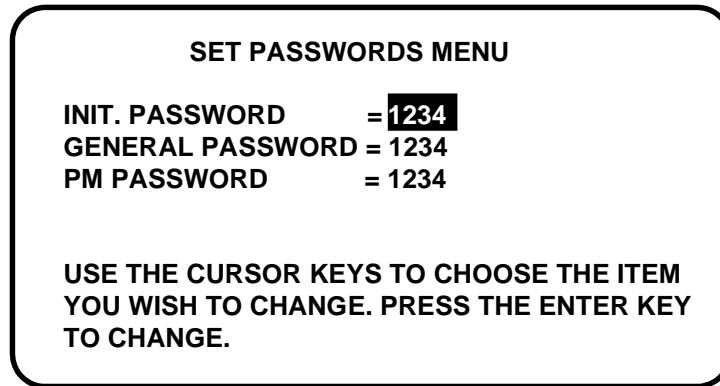

Figure 4-18. Set passwords menu
3. The display shows the Set Passwords menu, Figure 4-18 below.